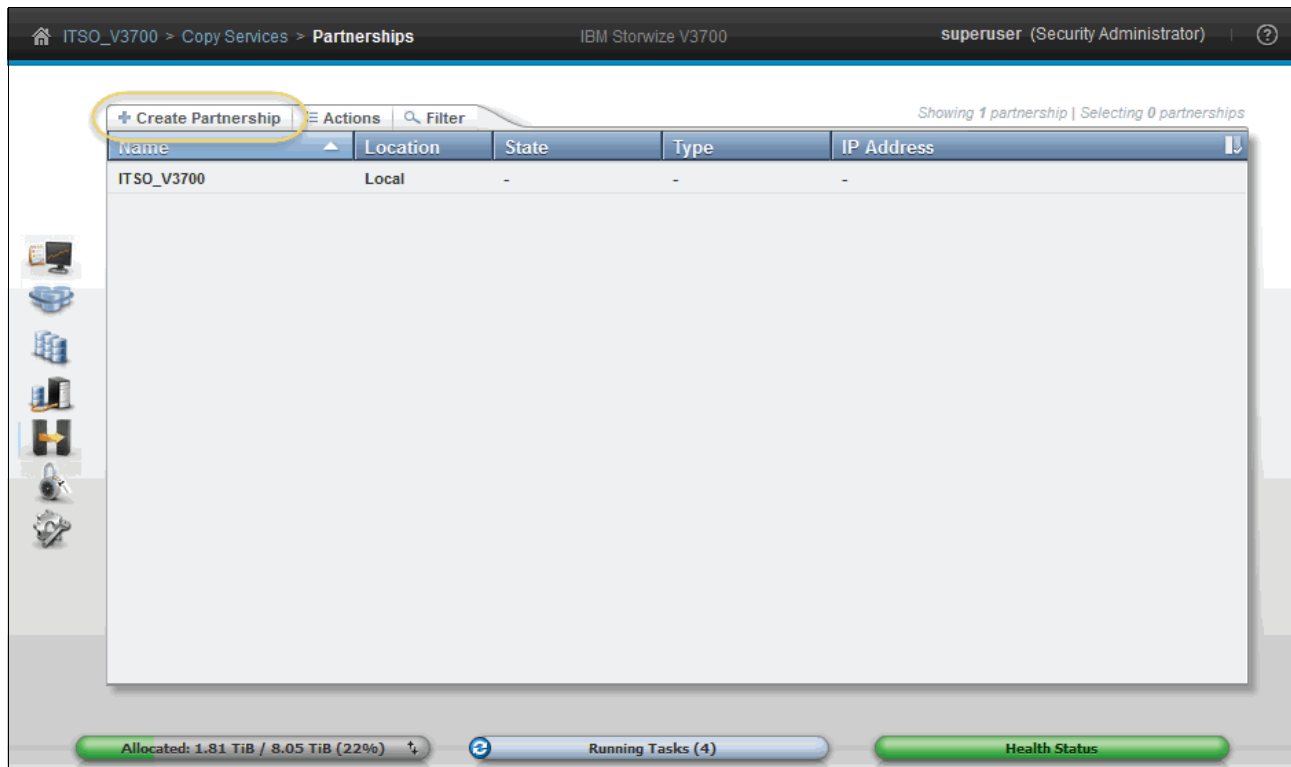

Figure 10-85 Create a cluster partnership
1. Click **Create Partnership** in the Partnership window, as shown in Figure 10-85.